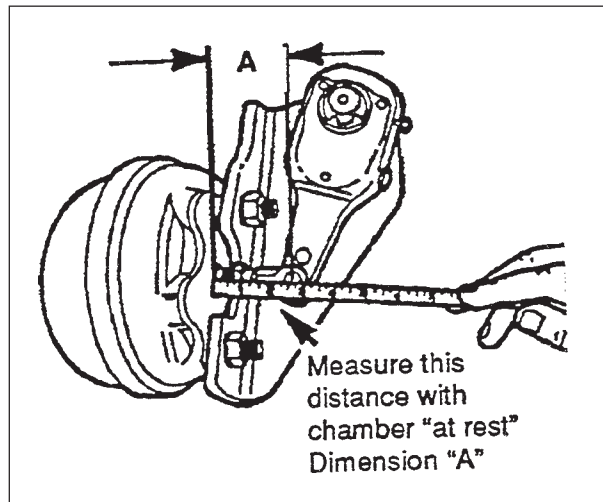

Fig. 8-22 PUSH ROD "AT REST"
1. Measure the brake chamber face to the center of the clevis pin at all wheel locations (see Fig. 8-22).